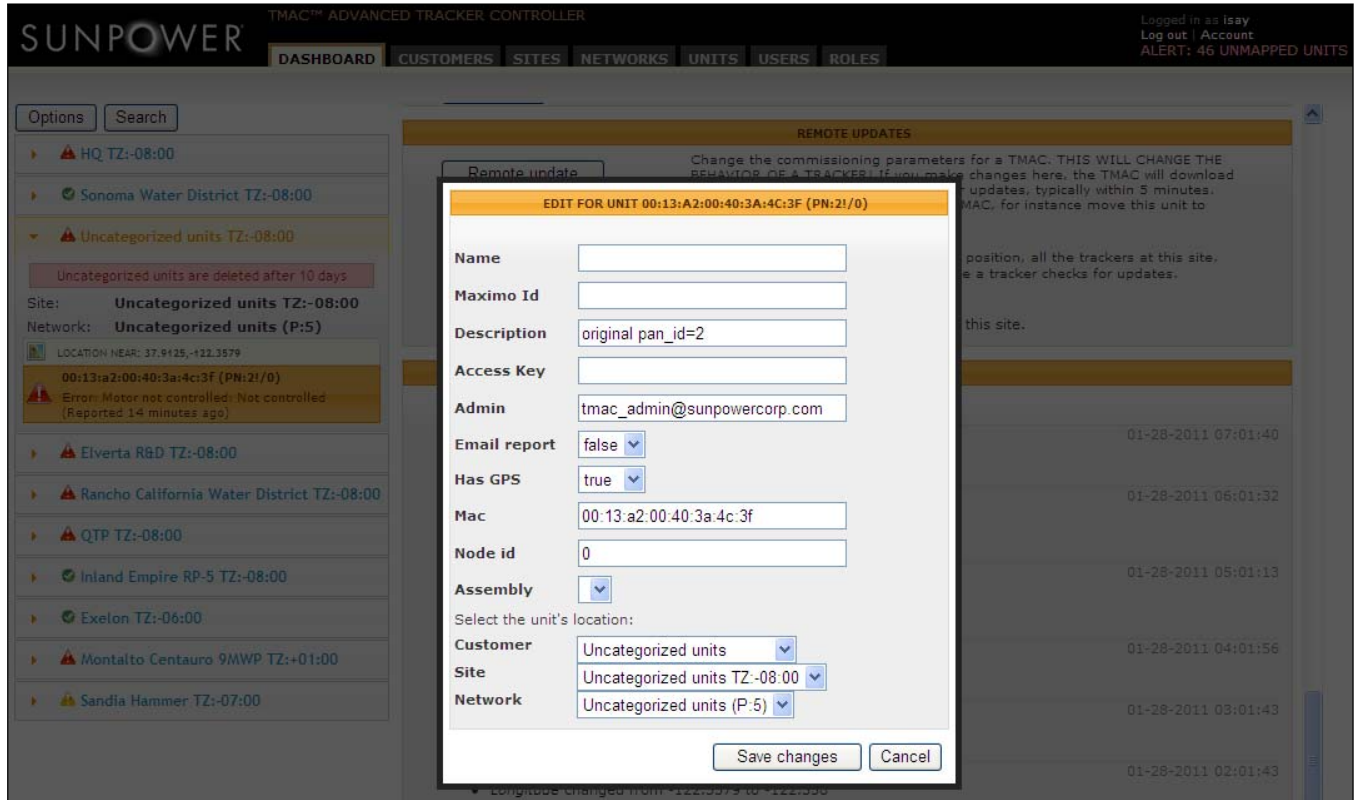

Fig. B74
6. The **EDIT FOR UNIT [DTMAC UNIT]** screen appears (Fig. B74).